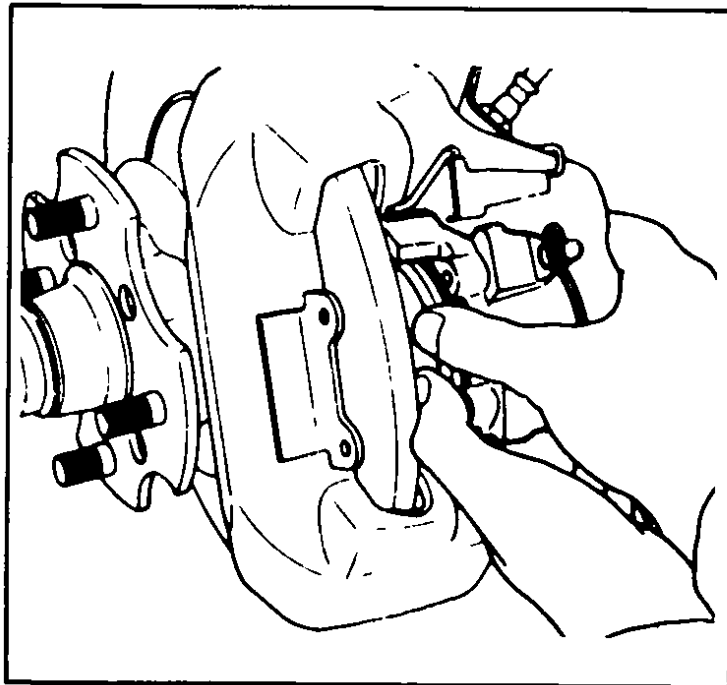

Fig 109 Pushing outer piston – Models B210 & 610
- 5 Loosen the air bleeder and **very carefully** push the outer piston into the cylinder until the end surface of piston coincides with end surface of retaining ring on boot. Figs. 109 and 110. Inner pad can now be installed.